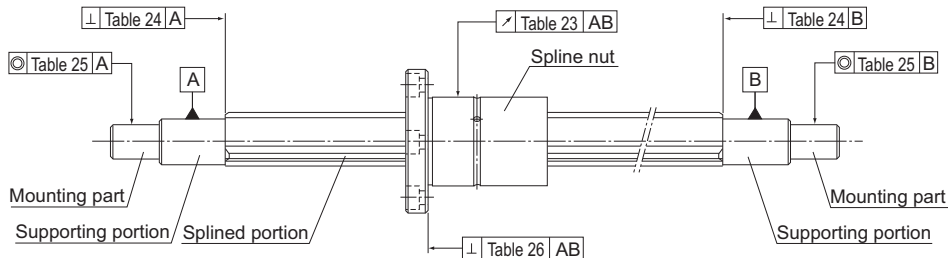

Fig.9 Accuracy Measurement Items of the Ball Spline
The accuracy of the Ball Spline is classified into three grades: normal grade (no symbol), high accuracy grade (H) and precision grade (P), according to the runout of spline nut circumference in relation to the support of the spline shaft. Fig.9 shows measurement items.